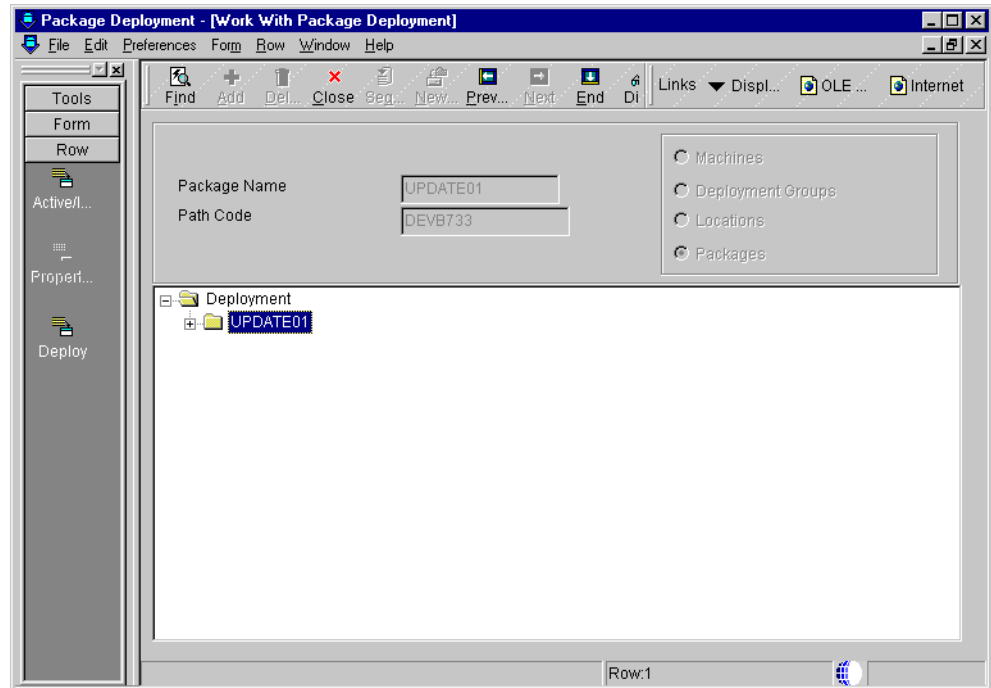

Figure 167. Work with Package Deployment
9. Click **Next**. The Work with Package Deployment form appears (Figure 167).